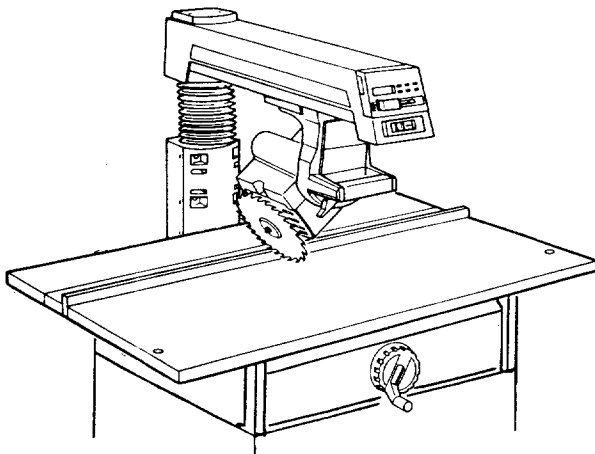

Fig. 75
15. Unlock the *bevel lock* and move the *motor* to the 45° bevel position. (Figure 75)